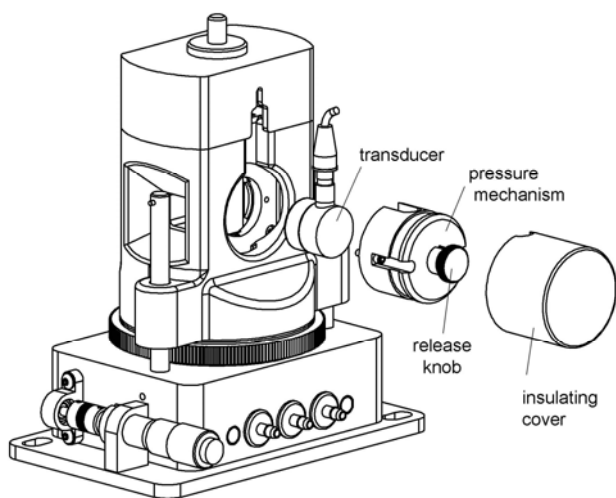

Figure 4. The photoacoustics option
2. Pull back the release knob on the pressure mechanism and cock it into position by rotating the knob a quarter of a turn to rest the pin on the outside of the housing. See Figure 4.